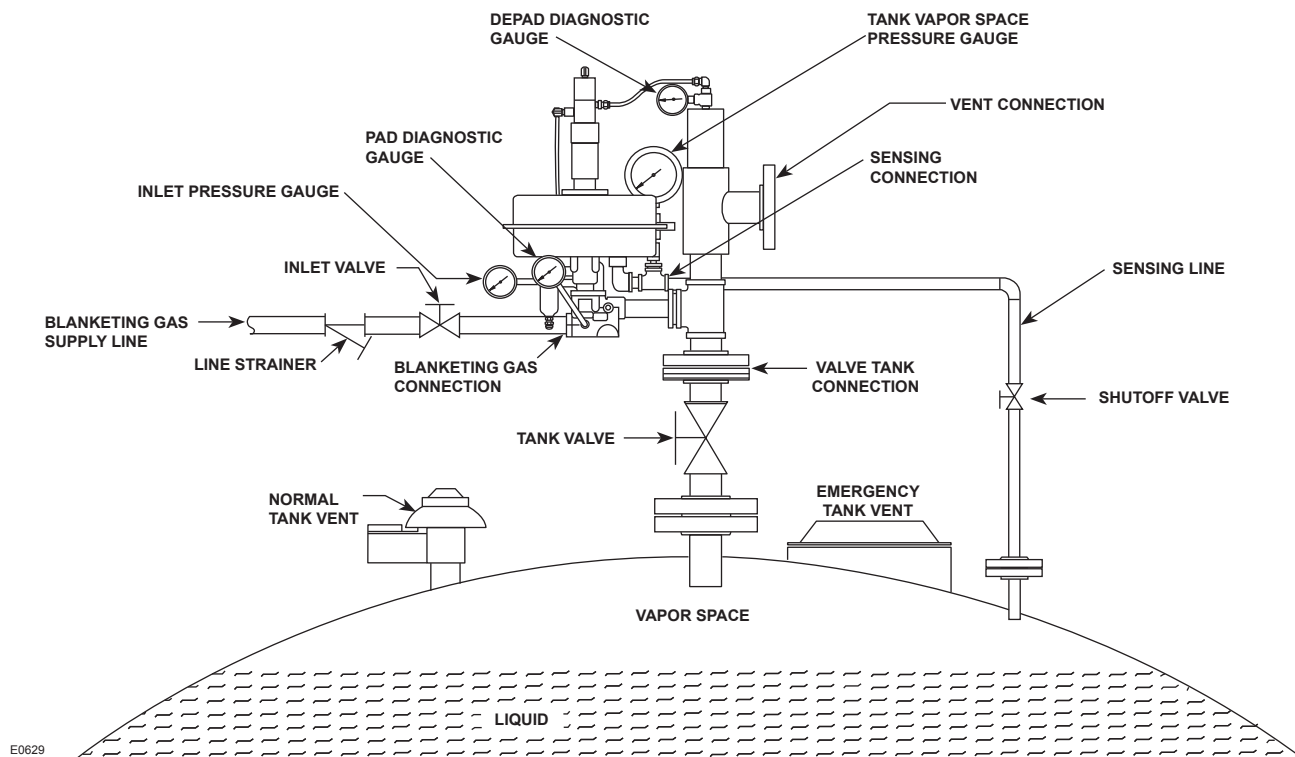

Figure 5. Type ACE97 Pad-Depad Valve Installation
4. The valve should be mounted above the tank with the actuator case in a horizontal position. Four connections are required (see Figure 5):
Piping must be capable of supporting the weight of the system. Use pipe supports when necessary. Refer to Figure 5.
Always open the tank shutoff valve prior to the inlet shutoff valve. Failure to do so could result in inlet pressure being applied to the actuator casing, potentially damaging it. Refer to Figure 5.